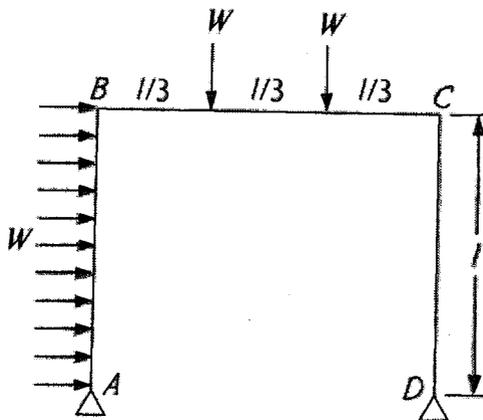

Fig. 4.2.
- (b) For the two hinged portal frame loaded as shown in fig. 4.2. Find the value of W at collapse. Assume that the plastic moment of resistance M_p is same for all the members.